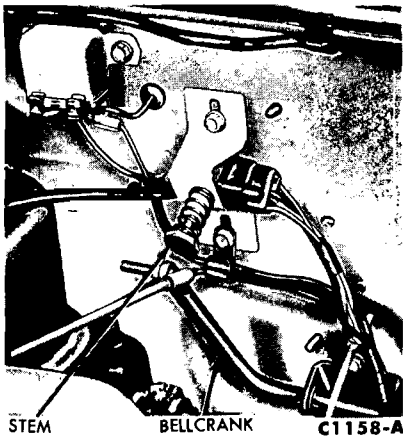

FIG. 2—Kickdown Switch Installation
3. With the engine running at fast idle, push the kickdown switch stem in until it bottoms (Fig. 2). When the stem bottoms, the engine should stop.